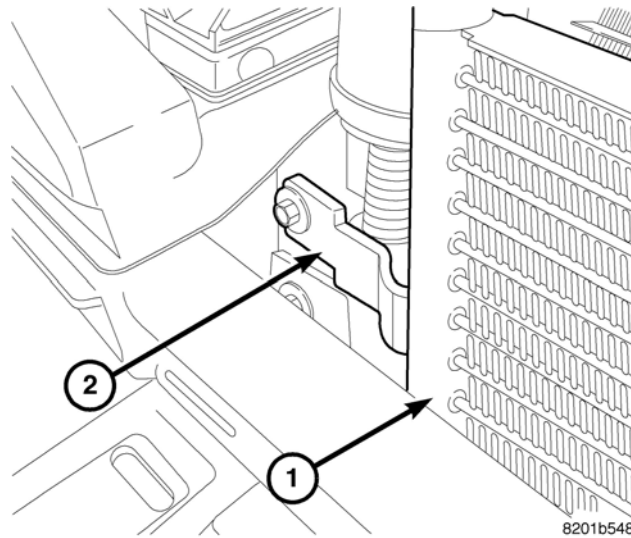

Fig. 13 TRANSMISSION COOLER INSTALLED - RIGHT SIDE
- 31. Using the screw removed in step 28, install the screw through the hole in the right tab/bracket into the radiator support, (Fig. 13). Do not tighten the screw at this time.